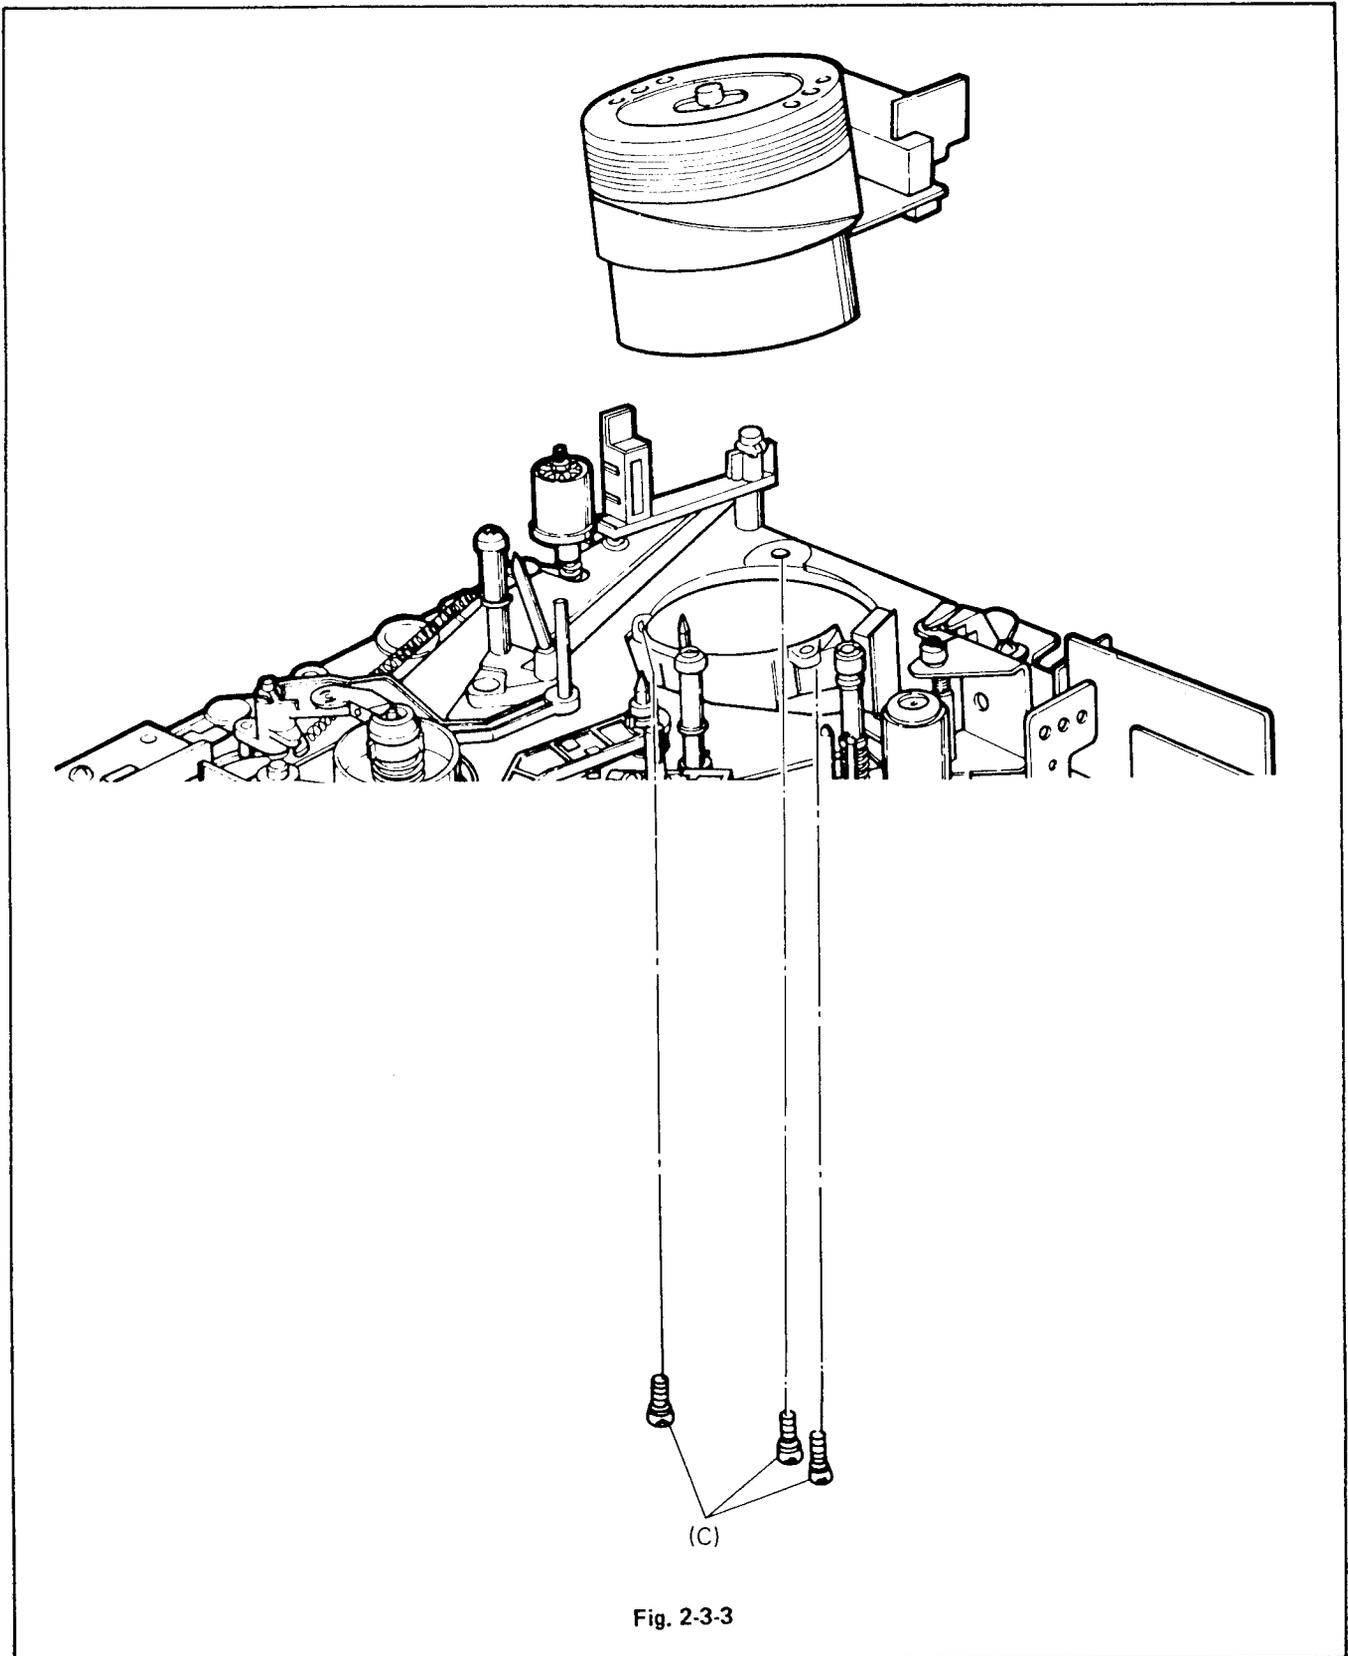

Fig. 2-3-3
- B. Remove 3 screws (C) as shown. (See Fig. 2-3-3)